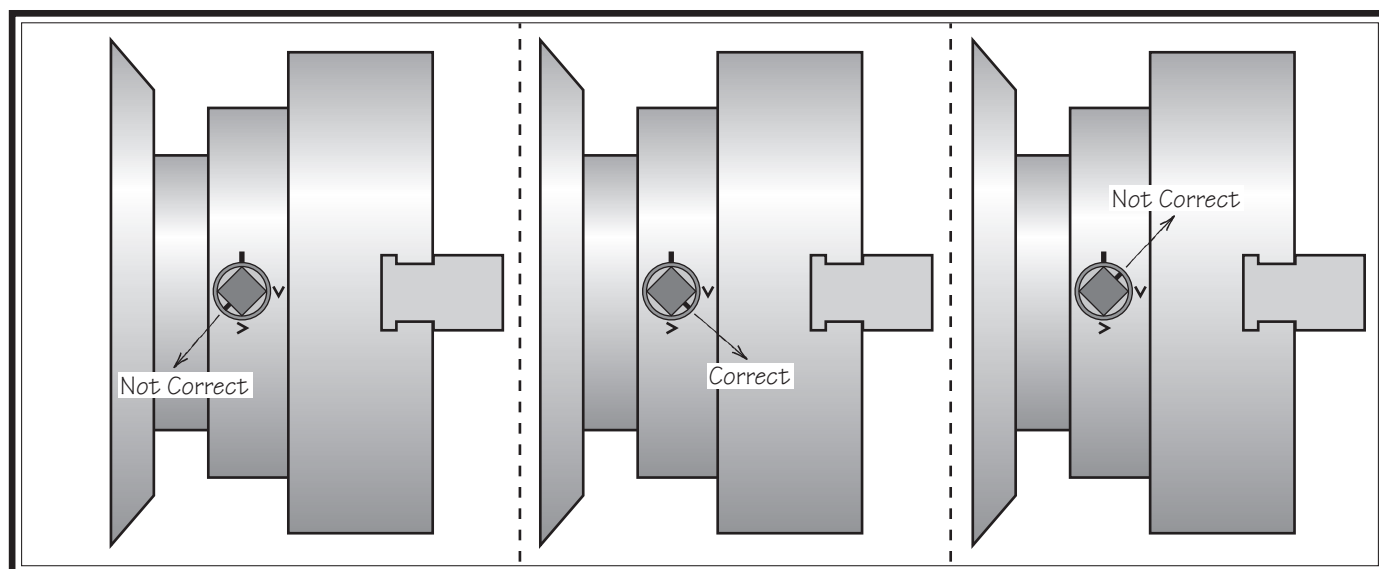

Figure 48. Correct camlock stud alignment.
- If one or more of the cams do not point between the "V" marks on the chuck, remove the chuck, and fine tune the camlock stud adjustment by adjusting the stud in or out and using **Figure 48** on the following page as a guide to correctly position the cam lines.